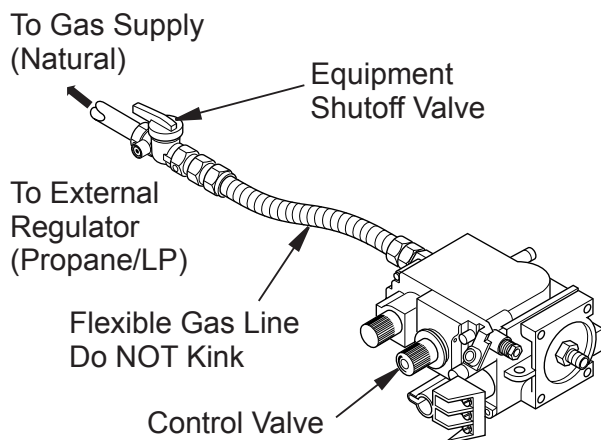

Figure 21 - Connecting Flexible Gas Line to Millivolt Valve
3. Attach flexible gas line from gas supply to the 1/2" flare fitting provided on control valve (see Figure 21).